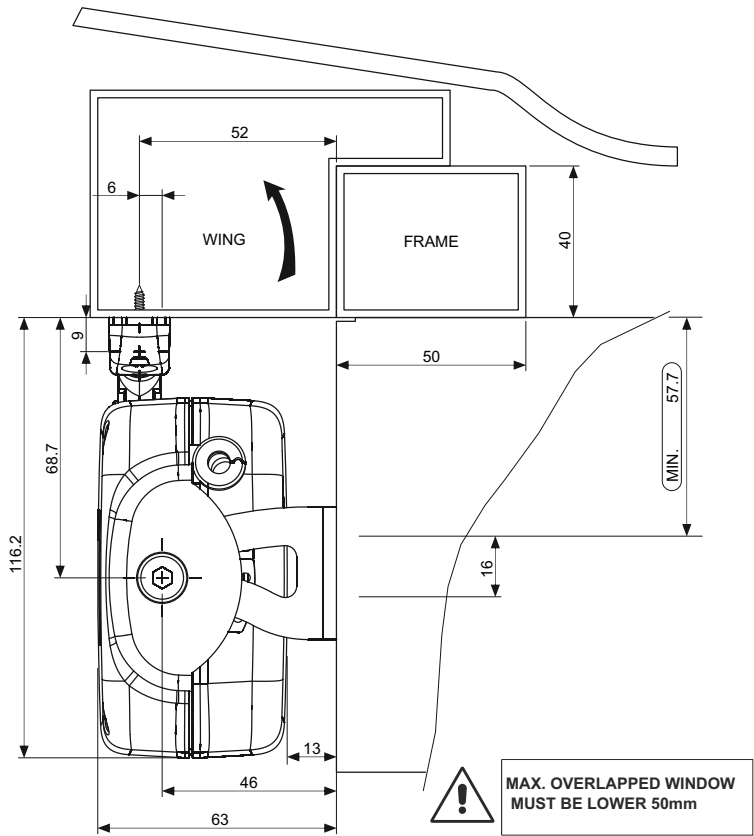

Fig. 13
5.2- TOP HUNG WINDOWS (Fig. 7 and Fig. 13 ÷ 20)
- 2) **Fig. 13-** With a pencil draw the centre line "X" of the window frame;